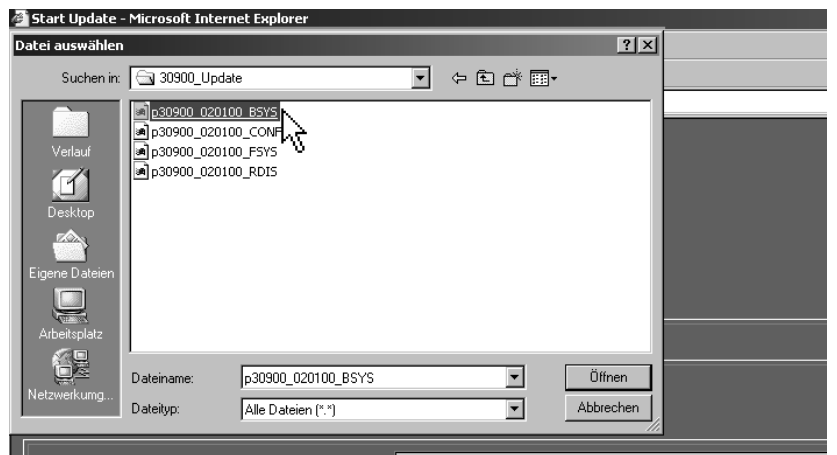

Fig. 5-12: The update file selection dialog box
4. Use the displayed dialog to select the directory path where you have stored the **four** update files. Select the file **p30900\_xxxxxx\_BSYS** first (see Fig. 5-12). xxxxxx represents the current software version code (also see 4.5 for details).